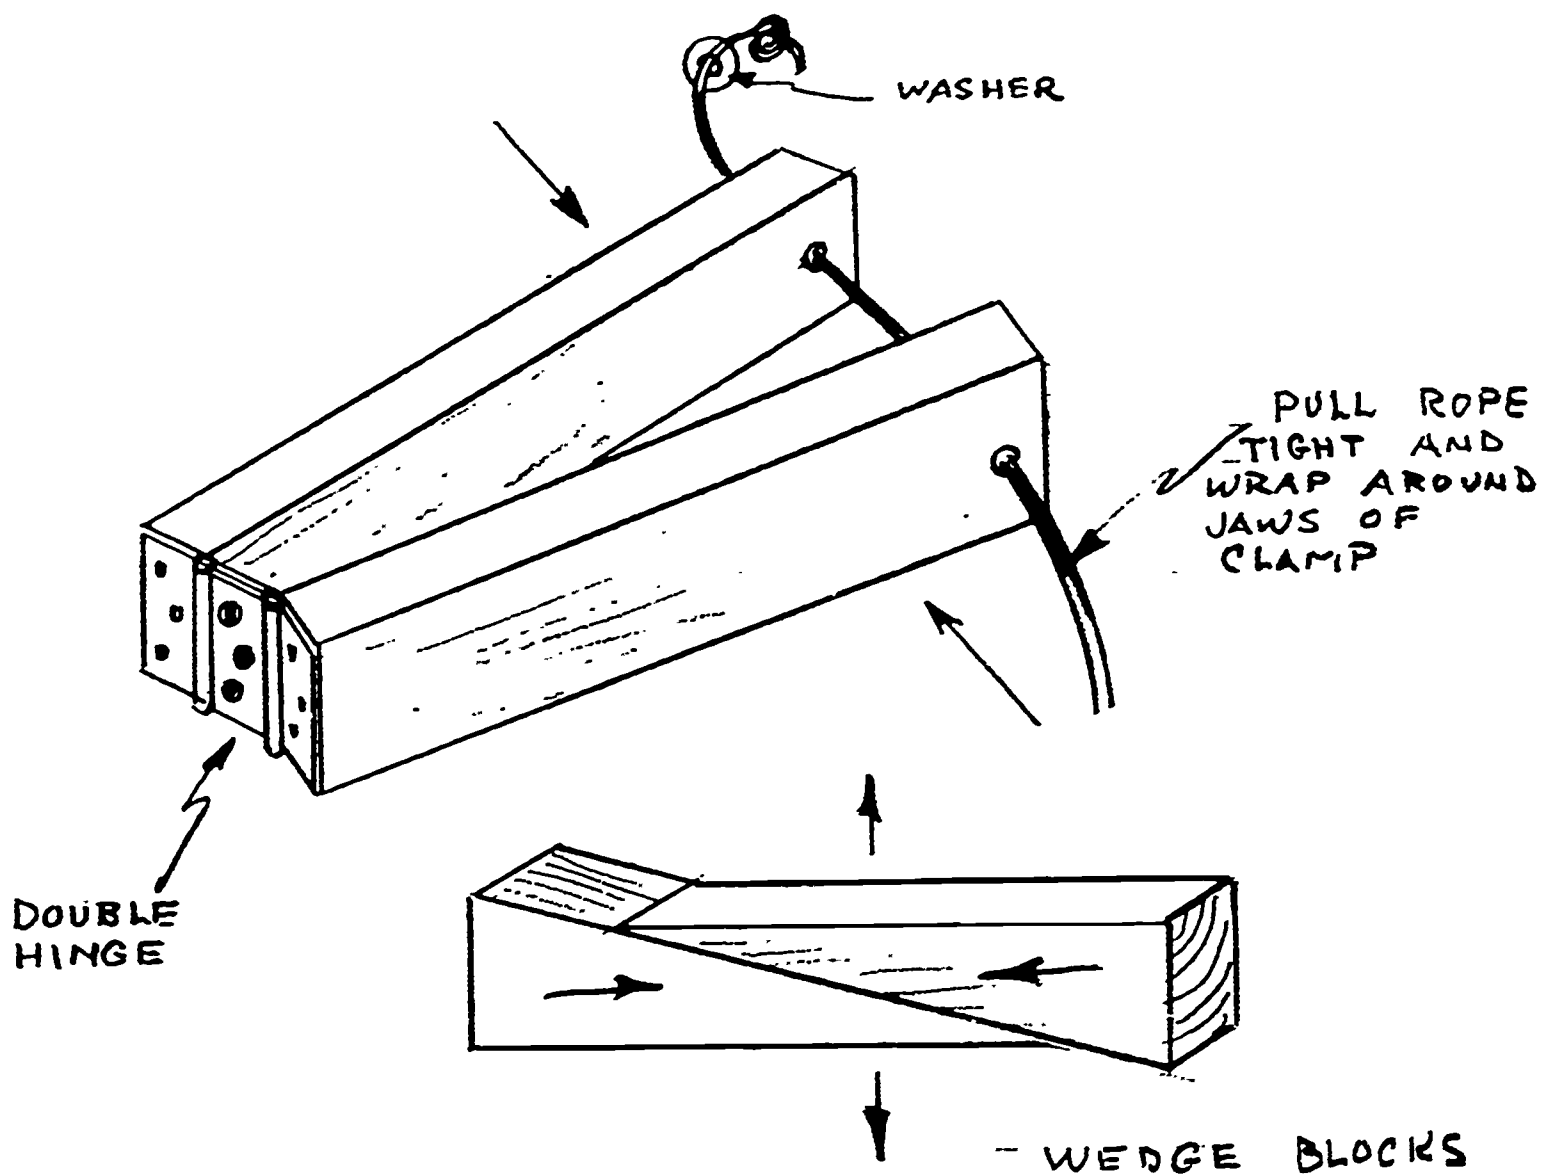

FIG. 237
7. Devise a clamp arrangement to hold members together until adhesive is set. See figure 237.